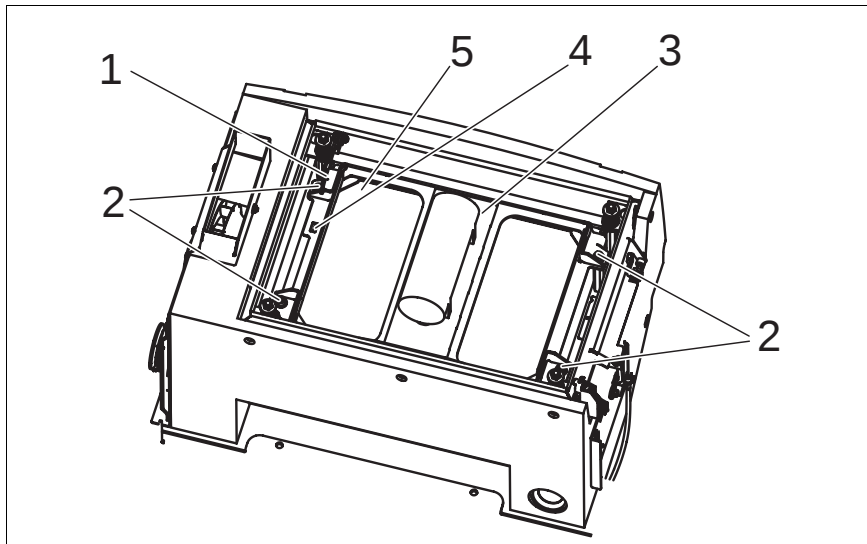

Fig. 18 Plate filter
- Loosen fillister head screws (Fig. 18/2) and remove.
- Fold back frame with electro-motor (Fig. 18/3).
- Hook frame at indicated position (Fig. 18/4).
- Remove plate filter (Fig. 18/5).